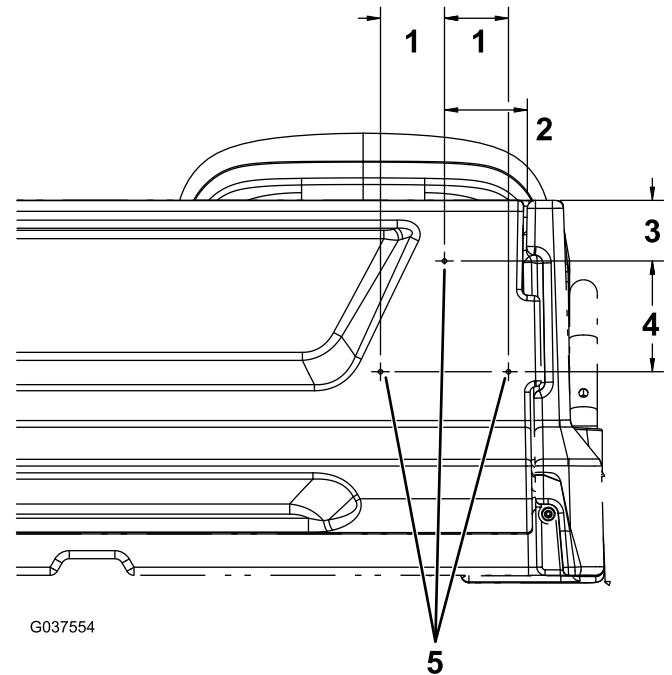

Figure 14
1. On the right side of the tailgate, measure 95 mm (3.75 inches) from the right edge of the tailgate and 70 mm (2.75 inches) from the top of the tailgate, and mark the location (Figure 14).
2. Measure 128 mm (5.02 inches) down from the hole marked in step 1 and 74 mm (2.9 inches) to the right and left and mark the 2 locations (Figure 14).
3. Drill a 5 mm (13/64 inch) hole at each of the 3 marked locations (Figure 14).